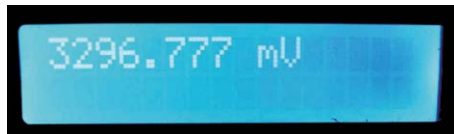

Figure 7.6 Example display of the voltage
- Connect the CH0 input of the ADC to an external voltage between 0V and +3.3V. The value of the voltage will be displayed on the LCD in millivolts as shown in the example in Figure 7.6.